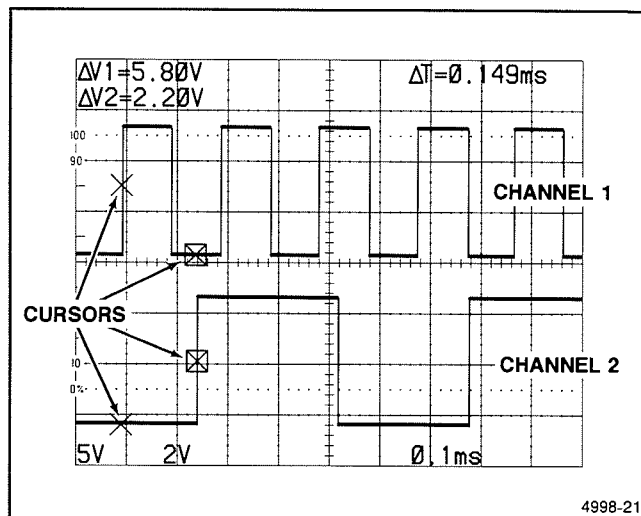

Figure 6-8. Time difference between two time-related pulses.
11. Push the SELECT C1/C2 button to select the other cursor, and use the CURSORS control to position the active cursor at the 50% level of leading edge of the Channel 2 pulse (see Figure 6-8).